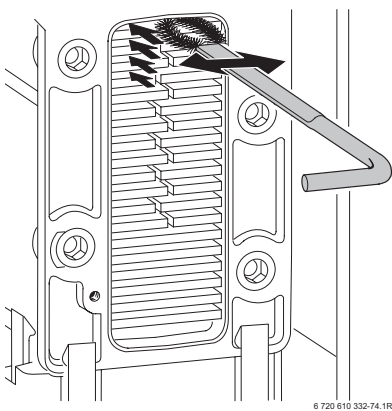

Fig. 53
- ▶ Clean the heat exchanger from top to bottom using the brush. Refer to fig. 53.